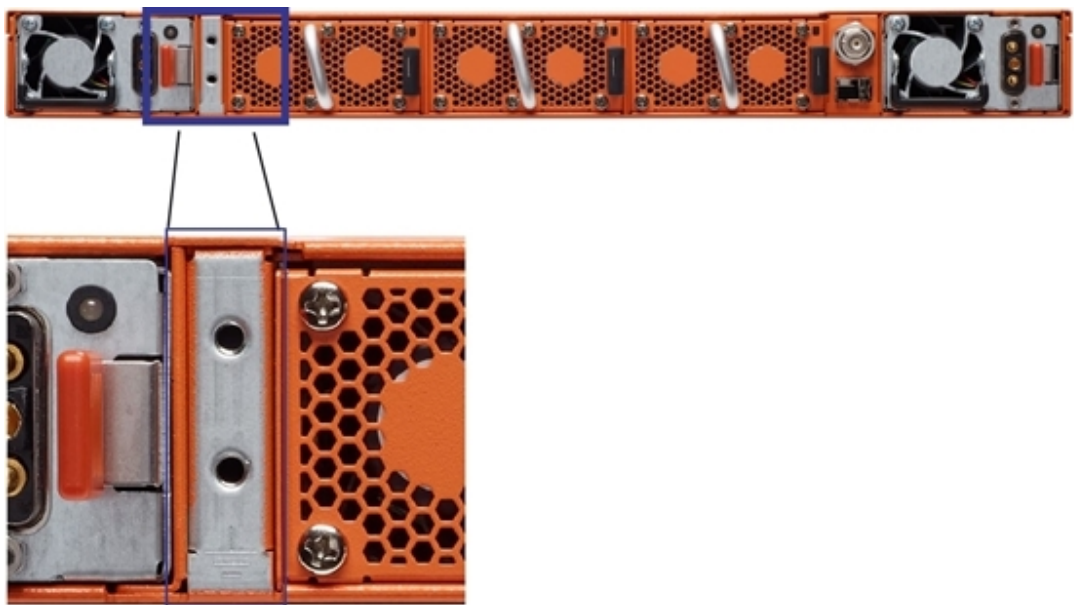

Figure 1 Holes for Ground Screws (DC-Powered GigaVUE-HC1)
1. Locate the grounding holes near the left corner at the rear of the chassis (Figure 1 Holes for Ground Screws \(DC-Powered GigaVUE-HC1\) shows the location on a GigaVUE-HC1 node).